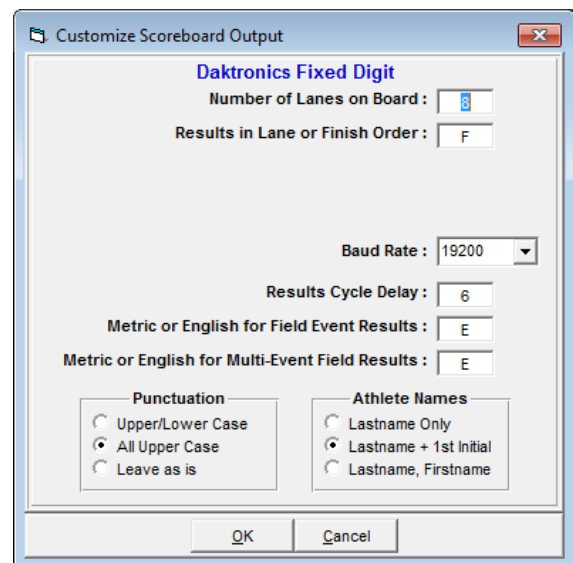

Figure 26: Customize Daktronics Fixed Digit
7. Go to **Interfaces > Scoreboard - Daktronics Fixed Digit > Customize** (Figure 26).